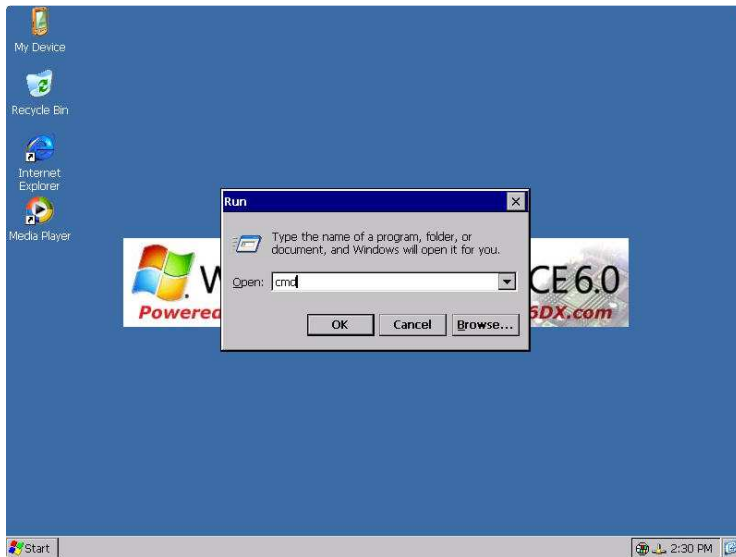

Fig. M03 - CE 6.0 desktop – Launching the CMD command
- With CE 6.0 running on the target device, click on **Start | Run** and launch the **CMD** command to open a console command window, as shown in Figure M03.